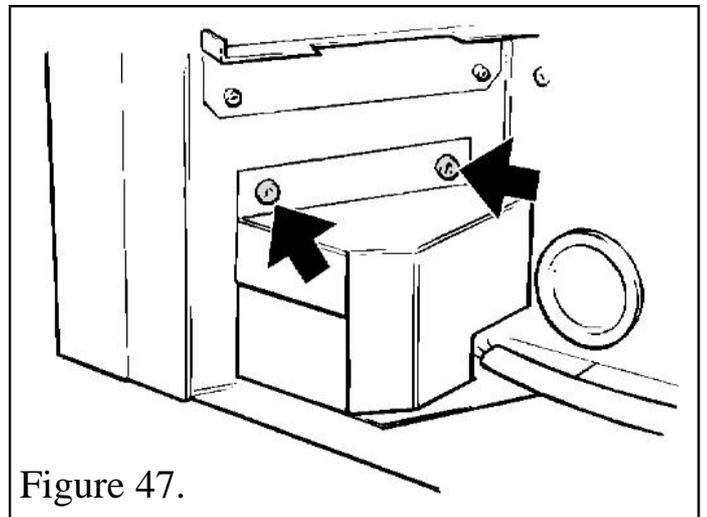

Figure 47.
- Detach the control unit from the fire box (left hand side) flange by removing two screws (See figure 47). Carefully withdraw the unit.